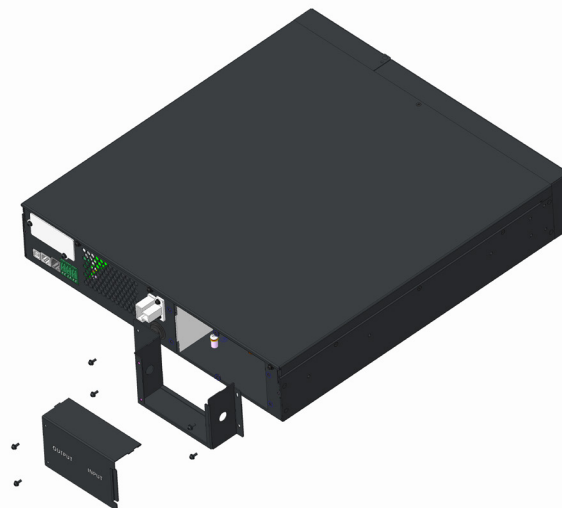

Figure 6: Install I/O Box Cover Plate
4. Install the I/O box cover plate with the provided screws (Figure 6).